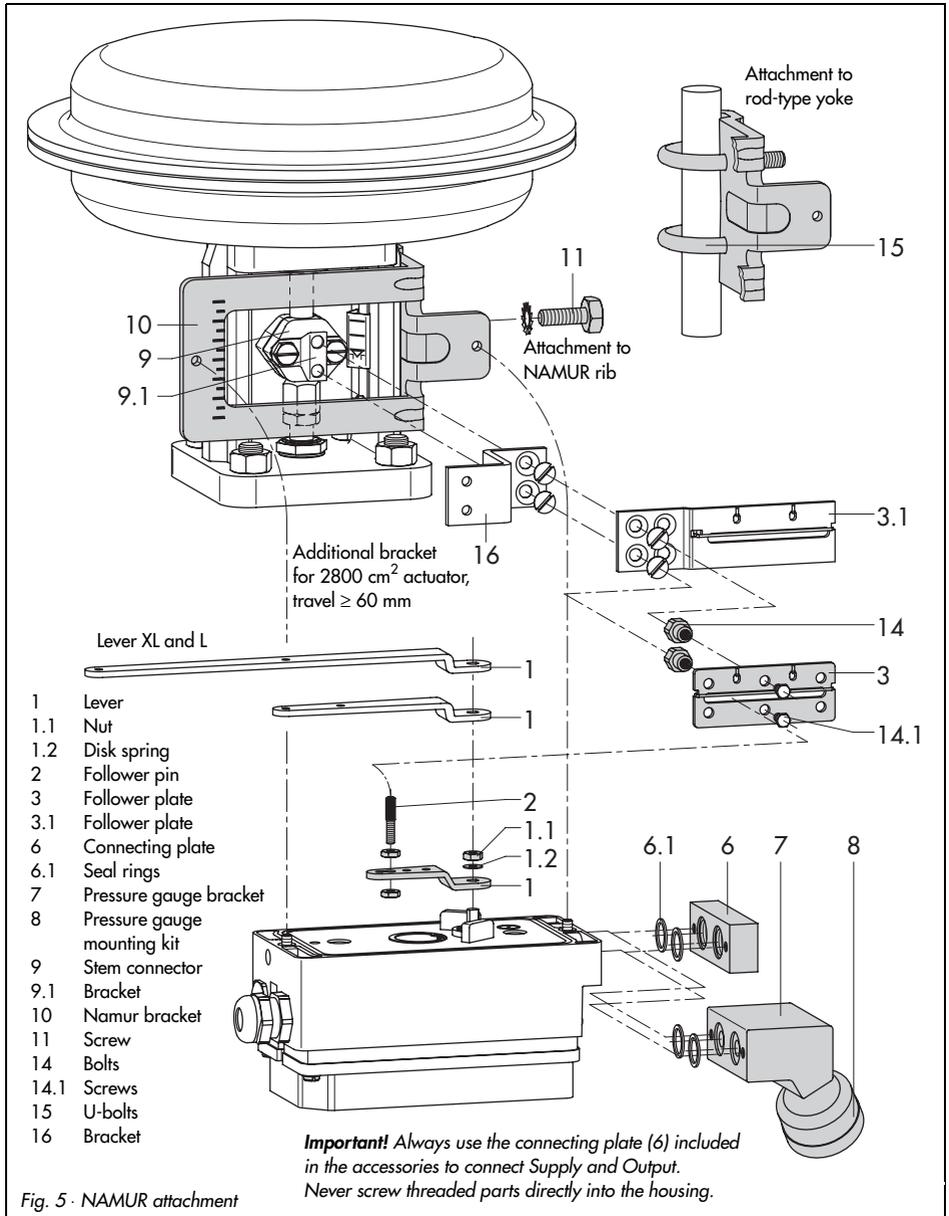

Fig. 5 · NAMUR attachment
**For the pneumatic connection** either a connecting plate (6) or a pressure gauge bracket (7) must be fixed to the housing, depending on the accessory chosen. Make sure the seal rings (6.1) are correctly inserted (see Fig. 5, bottom right).